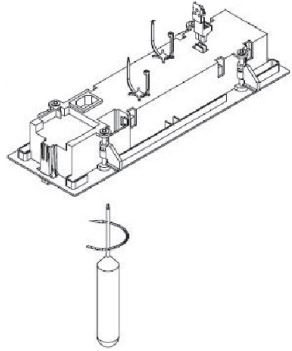

Figure 1: Tight cam lock screw using Philips screwdriver
1. Take out the cut-out template (348mm x 97mm) from the packing box; use a pencil to mark the cut-out position on the ceiling. Once the ceiling cut-out is done, remove the face plate, recess the base assembly through the ceiling cut-out (if access to the ceiling cavity is not available, connect the mains power cord (active & neutral wire) and DALI control wires, secure with the cable ties supplied, before recessing the base in the ceiling cut-out). Once recessed in the cut-out, tighten the cam lock screws using suitable size Philips screwdriver or a power driven screwdriver set at minimum torque, turning clockwise (refer figure 1), to secure the product to the ceiling.